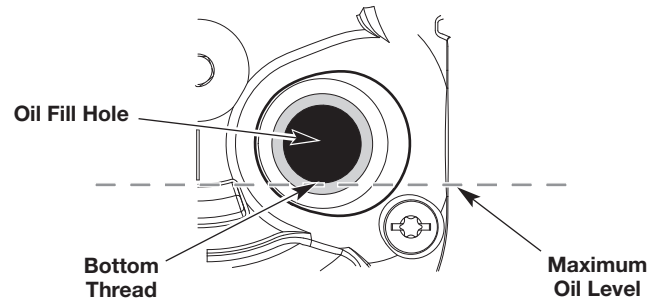

Fig. 26
5. Look into the oil fill hole; use a flashlight if necessary. **The oil level should just touch the bottom thread of the oil fill hole** (Fig. 26).